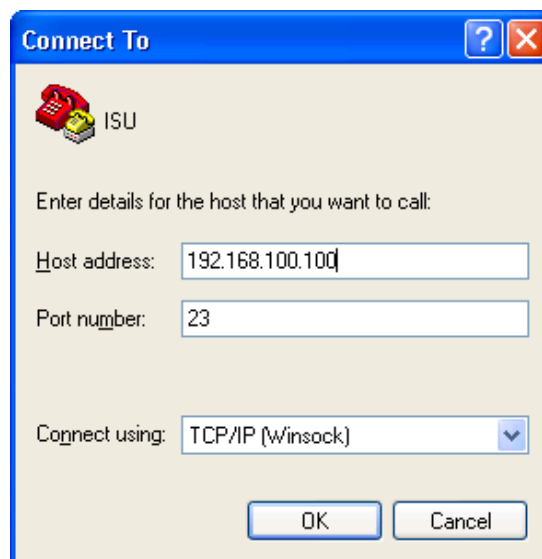

Figure 4-24 Setting host address and port number
4. As shown in Figure 4-24, type the host address (default address: 192.168.100.100) and port number (default: 23), and click **OK** to finish setting of Hyper Terminal.